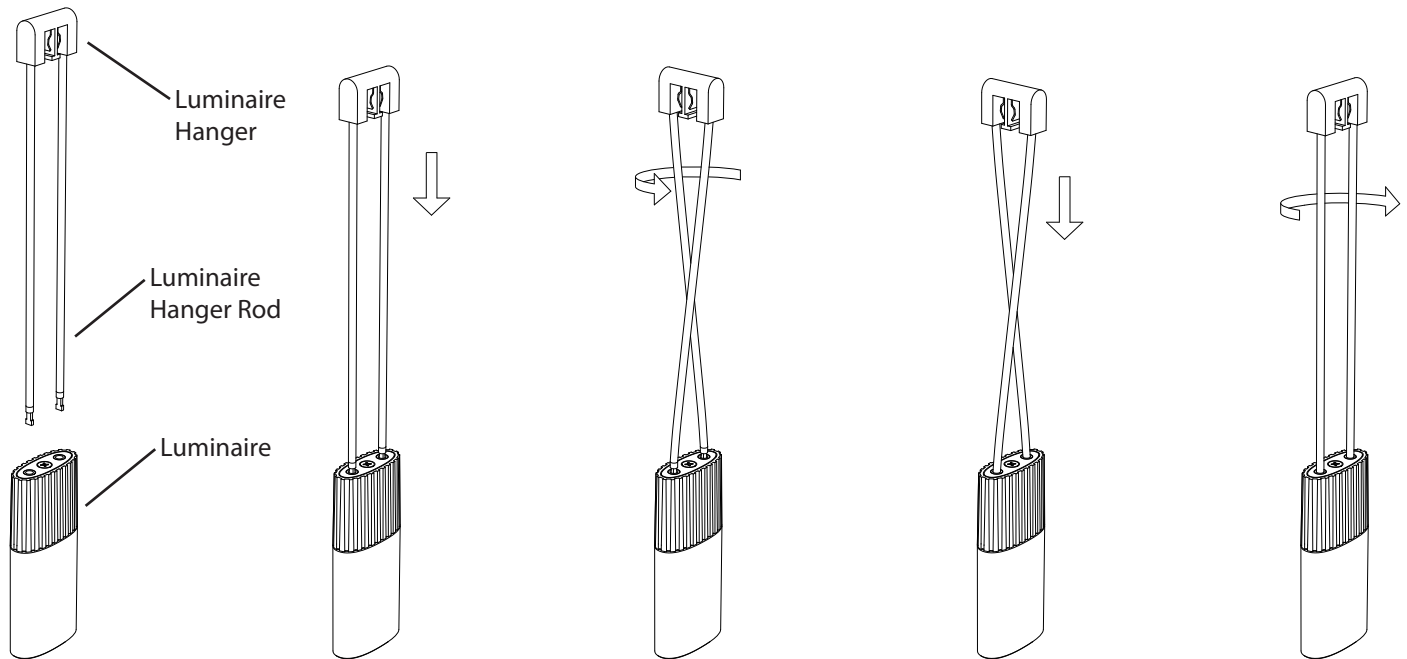

Fig. 1
1. Align **In-Line Connector** with **Power Bar** (Fig. 1) and press down firmly on the top of the Power Bars, while pressing up on the bottom of the Connector until the Power Bars clicks into place (Fig. 2).
NOTE: Each Single Cord Power Feed Hanger only carries half of the electrical circuit, and must be used in pairs. To avoid short-circuiting the system, the spring contacts must point in different directions (Fig 1).
Luminaire Hanger (Fig. 1):